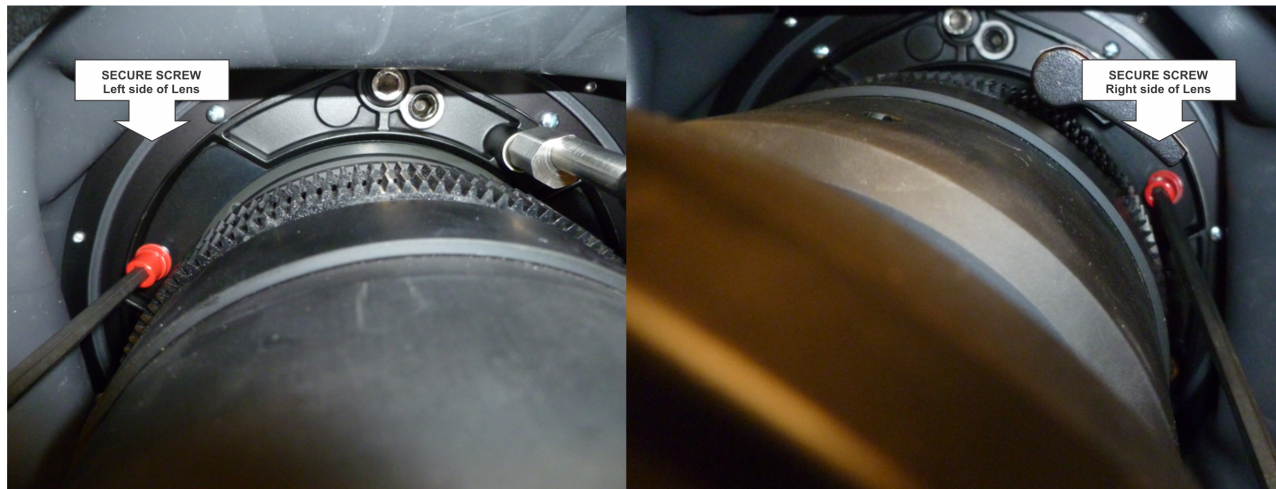

FIGURE 2-4
5. For added stability such as motion applications, fasten the security screws provided with the lens mount. Refer to Figure 2-4.
6. Use a 5mm hex driver to fasten the red security screws provided with the lens mount (*Figure 2-4*), or hand tighten the lens retaining screws attached to the lens. **NOTES:** 1) *Recommended for heaviest lenses such as 0.73:1 and 1.2:1.* 2) *The red security screws MUST be installed when hoisting the projector overhead, or installing the projector in an overhead position.*